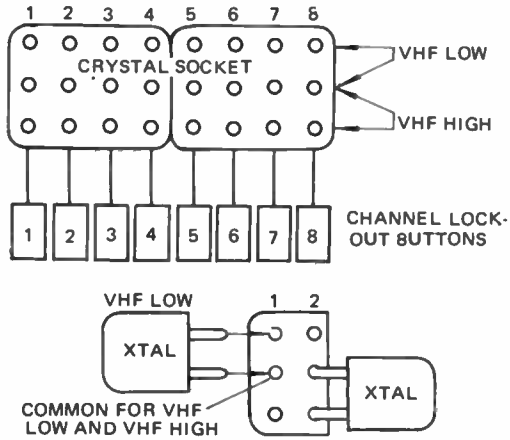

FIGURE 2. CRYSTAL INSTALLATIONS
- Step 1:** Put all crystals in sockets. Refer to Figure 2.